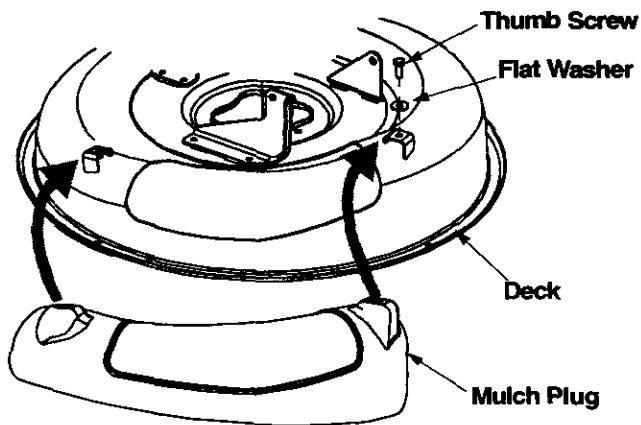

Figure 3
4. Insert thumb screw and flat washer, removed in step 2, through the left hole on the mulch plug and corresponding hole on the deck. See Figure 3. Thread the screw a few turns to secure, but do not tighten at this time.